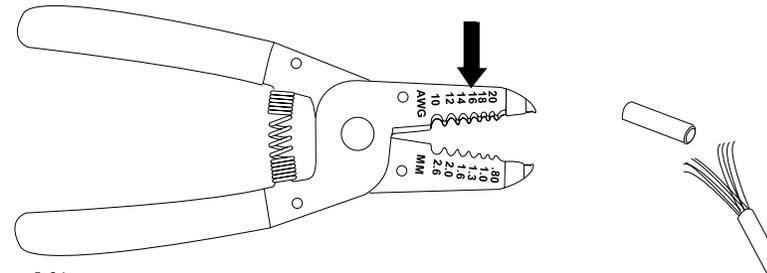

Figure 5-31
**5.6-9** Strip off the 11-mm section of outer jacket with the 16 AWG opening of the buffer stripping tool (Figure 5-31).